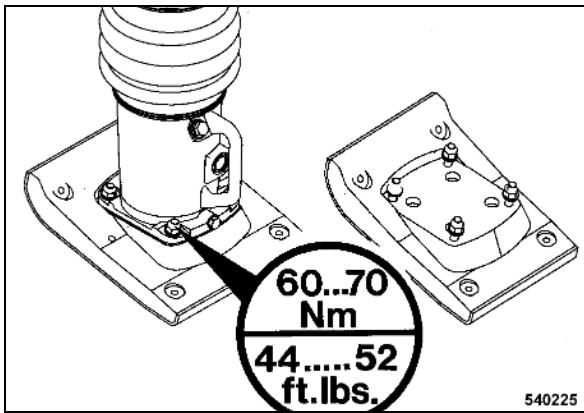

Fig. 27 □
- After changing the tamper foot plate (Fig. 27) tighten the 4 fastening screws with a tightening torque of 60 to 70 Nm (44 to 52 ft.lbs).